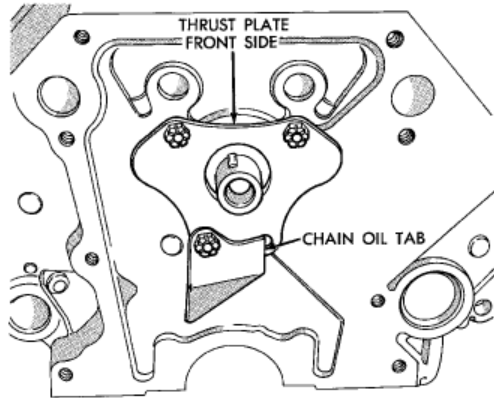

Figure 1
3. Remove the thrust plate and chain oil tab (Figure 1). Discard the parts.